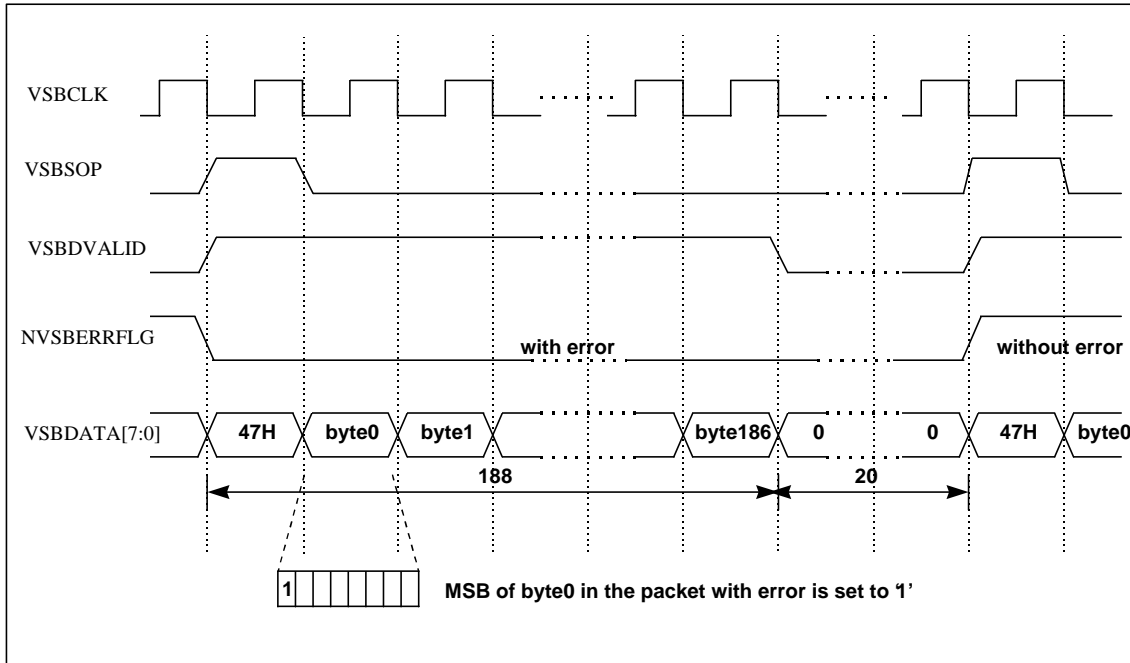

Figure 6.6.8 I/F to Transport Demultiplexer when Register64[7:0] is set to Default Value
- 5) the VSBDVALID signal is not suppressed during VSBDVALID='0' interval. See Fig. 6.6.8.